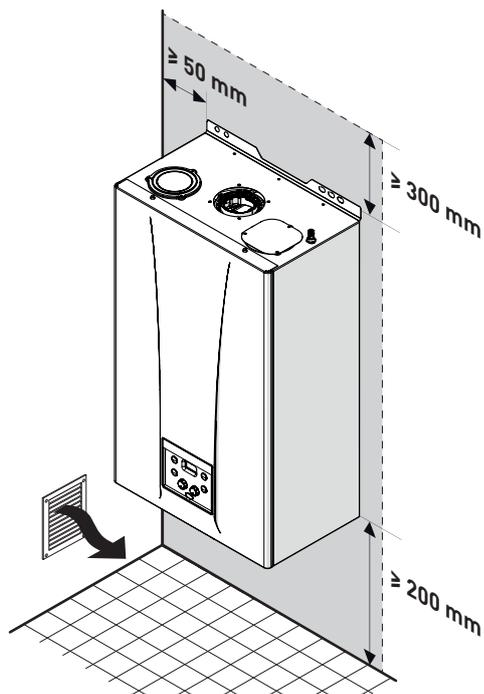

Fig. 19
- Remember to consider the space needed in order to access the safety/adjustment devices and to carry out maintenance interventions (see Fig. 19).